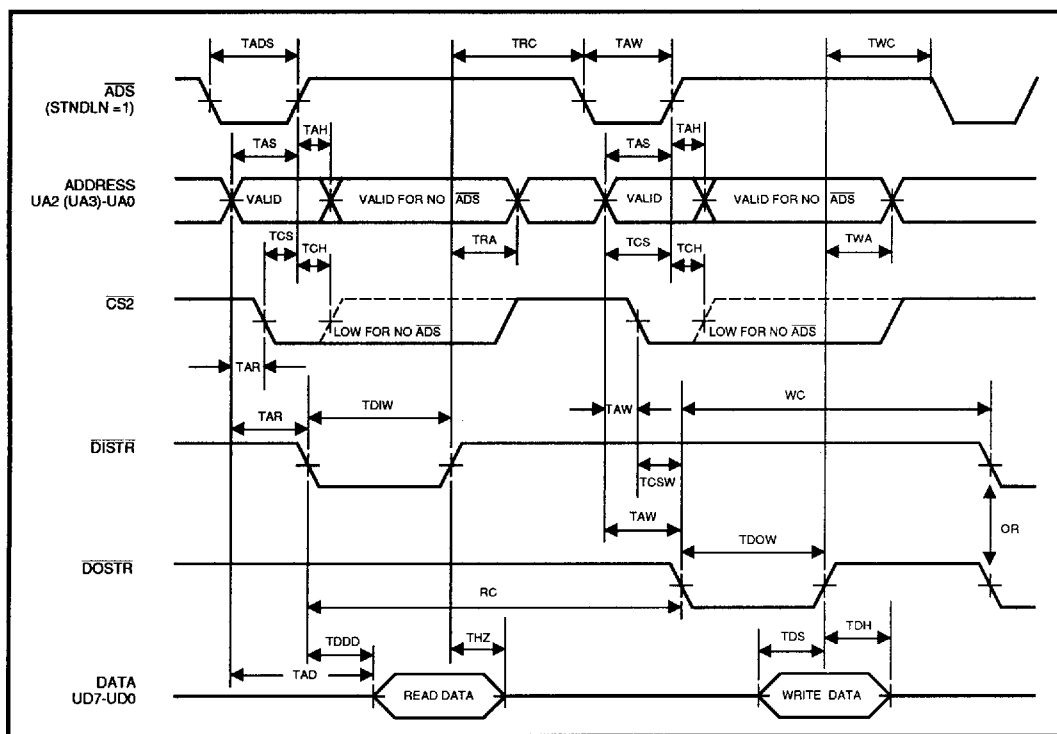

FIGURE 5: UART Bus Timing
**PARALLEL BUS INTERFACE** (See Figure 5) The following times are for  $C_I = 100 \text{ pF}$ .